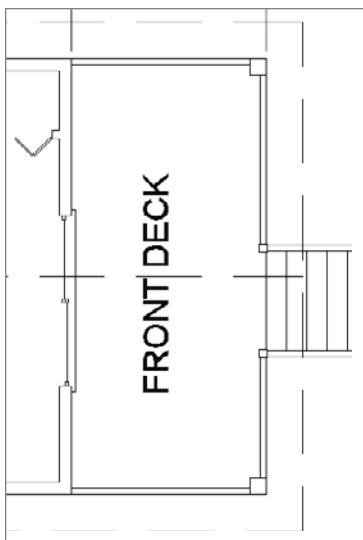

FIGURE 12.28 The result of zooming and panning for a view of the right side of the floor plan
1. Pan and zoom to get a good view of the right side of the floor plan, including the front deck (see Figure 12.28).